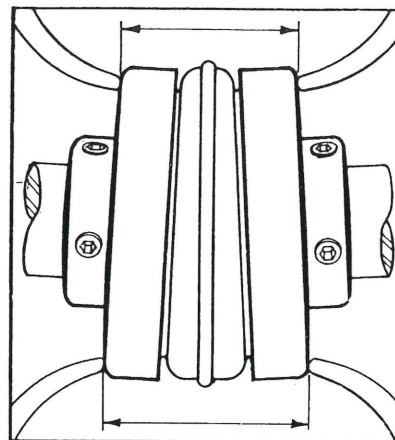

FIGURE 6
- b. Check angular misalignment by using a micrometer or micrometer calipers to measure the gap between the two flanges (see Fig. 6). Measure this gap at intervals around the periphery of the coupling to determine the minimum and maximum gap. The differences in these two values should not exceed the values given in Fig. 7 and should be as close to zero as possible. If the angular misalignment was adjusted, go back and recheck the parallel alignment.